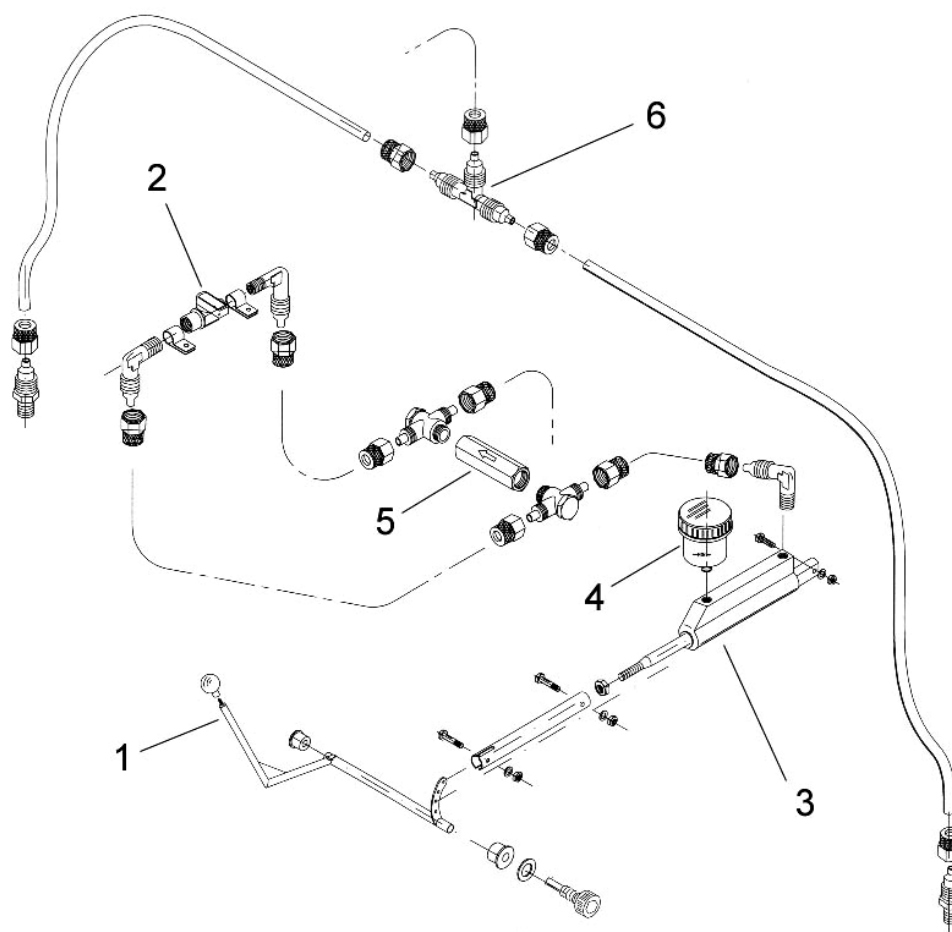

Fig. 1-7 Brake System
Wheels are cantilevered on gear struts and feature hydraulically actuated disc brakes (see fig. 1-7) controlled by a lever (1) located on cabin tunnel between seats. Main gear wheels mount Air-Trac type 5.00-5 tires inflated at 23 psi (1.6 bar). Hydraulic circuit shut-off valve (2) is positioned between seats. With circuit shut off, pulling emergency brake lever activates parking brake function.